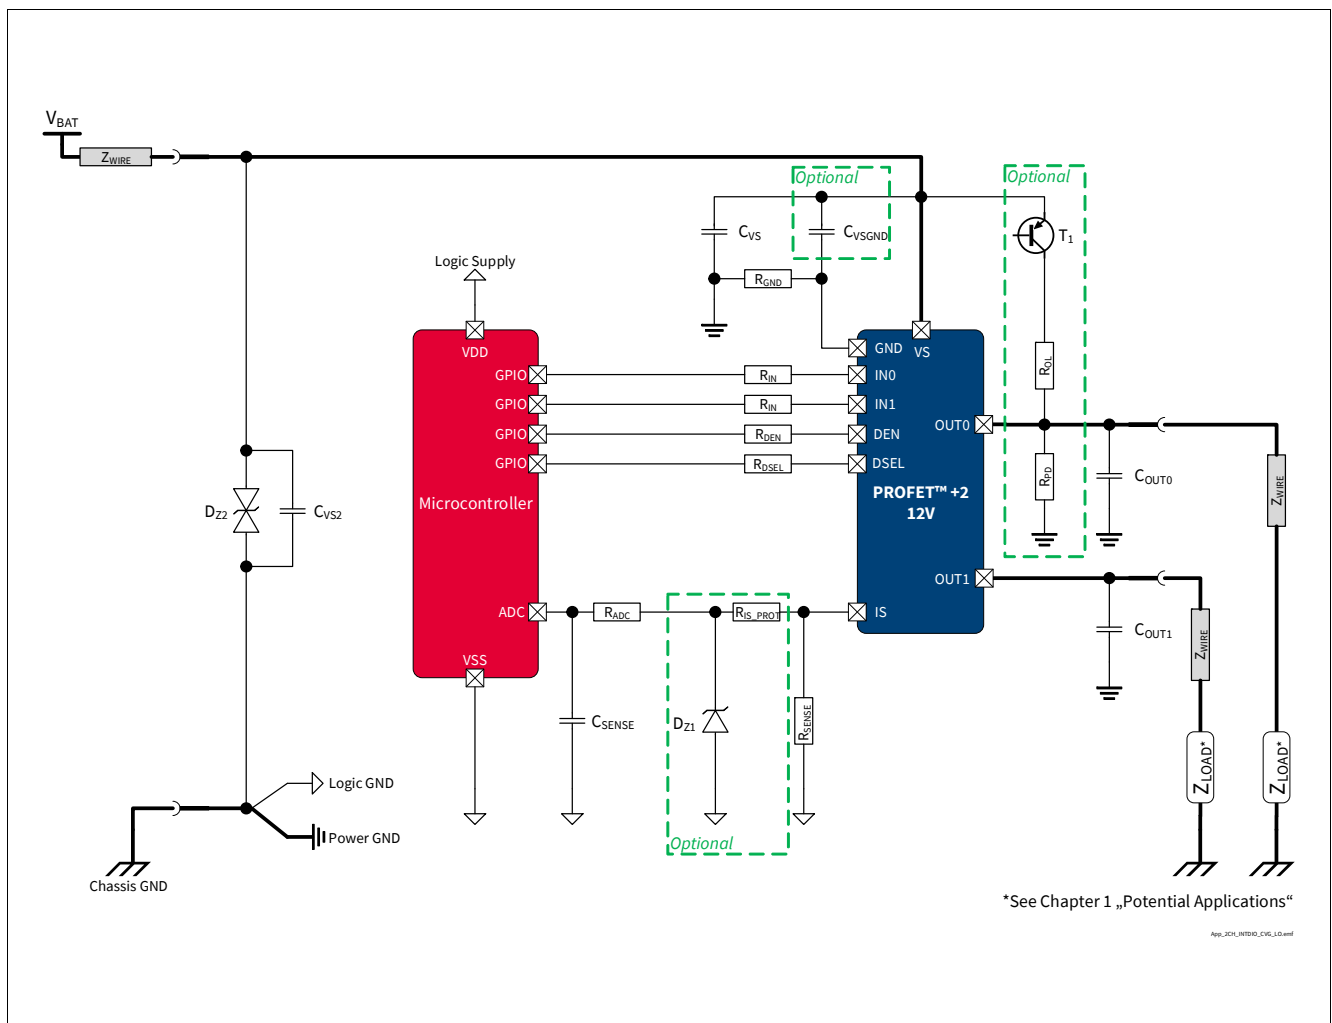

Figure 43 BTS7040-2EPA Application Diagram
1.05 , 2019-10-15	<p>P_8.7.6.1, P_8.7.6.7, P_8.7.6.8 updated (added in Note or Test Condition: link to Figure 25)</p> <p>P_8.7.6.6 updated (added in Note or Test Condition: link to Figure 26)</p> <p>P_7.5.6.4, P_7.5.6.5 updated (added in Note or Test Condition: DEN = “low”; link to Figure 19)</p> <p>P_7.5.6.12 updated (added in Note or Test Condition: see Figure 21; deleted unnecessary space in Symbol: dV_{OUT} / dt → dV_{OUT} / dt)</p> <p>P_9.7.6.1 updated (added in Note or Test Condition: See Figure 34)</p> <p>P_9.7.6.6 updated (Min./Typ./Max.: -40%/1800/+40% → -26.0%/1750/+26.0%)</p> <p>P_9.7.6.8 updated (Min./Typ./Max.: -35%/1800/+35% → -23.5%/1750/+23.5%)</p> <p>P_9.7.6.9 updated (Min./Typ./Max.: -30%/1800/+30% → -20.5%/1750/+20.5%)</p> <p>P_9.7.6.12 updated (Min./Typ./Max.: -26%/1800/+26% → -19.0%/1750/+19.0%)</p> <p>P_9.7.6.15 updated (Min./Typ./Max.: -11%/1800/+11% → -9.7%/1805/+9.7%)</p> <p>P_9.7.6.17 updated (Min./Typ./Max.: -6%/1800/+6% → -6.0%/1805/+6.0%)</p> <p>P_9.7.6.19 updated (Min./Typ./Max.: -5%/1800/+5% → -4.5%/1805/+4.5%)</p> <p>P_7.5.6.11 updated (added in Note or Test Condition: see Figure 19)</p> <p>Figure 1, Figure 43 updated</p> <p>Chapter 1 updated (or LED equivalent → or equivalent electronic loads (e.g. LED modules))</p> <p>P_4.3.0.7 added</p> <p>Table 24 updated</p> <p>Chapter 5.1 updated (added: see Chapter 10 for the complete application setup overview)</p>